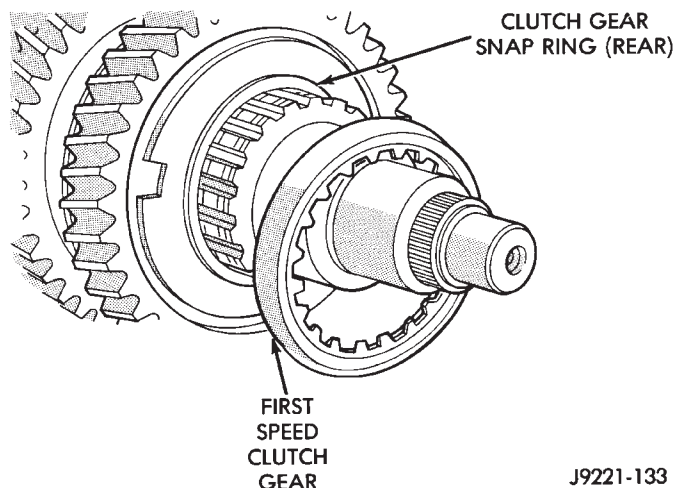

Fig. 72 First Gear Clutch Gear Removal
(16) Remove first gear clutch cone (Fig. 72).
(17) Remove first gear clutch gear rear snap ring from mainshaft hub (Fig. 72). It is not really necessary to remove this snap ring unless it, or the mainshaft is to be replaced.